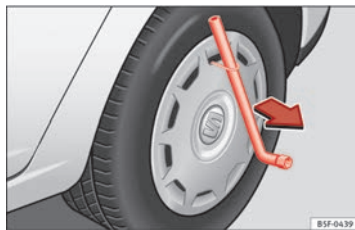

Fig. 147 Remove the complete hub cap.
- Remove the wheel cover using the wire hook ⇒ Fig. 147.